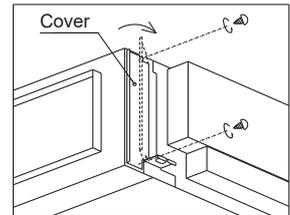

Fig.1
- (1) Remove the two screws for the cover on the filter box. (Fig. 1)